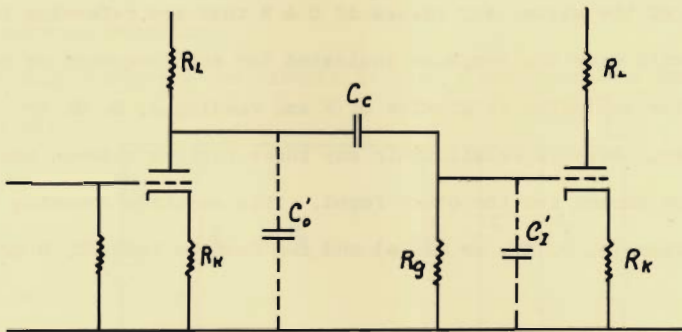

Fig. 1
Let R_g in Fig. 1 be 390K and it is desired to find the nearest standard value of condenser for C_c that will give a loss of 1 db at 20 cycles. Set the indicator to -1 on the (db) scale. Move the slide and set 2 on the (F) scale to the hair line. Re-set the indicator to .39 on the (X_c) scale. Under the hair line read .4. Determining the decimal point gives a value of $.04 \mu f$. If this value is not convenient and say $.05 \mu f$ is more suitable, move the slide till .5 (for $.05 \mu f$) is at .39 (for 390K) and read $F = 16.2$ for -1 db response. The impedance Z in polar form represented by the coupling as a load on the tube may be solved by the relation of $|Z| = \frac{R}{\cos \theta}$. $\cos \theta$ and θ may be read directly for any value of frequency when C is set to R. The (C) and (X_c) scales are used to compute $\frac{R}{\cos \theta}$. Set the left index of scale (C) to R on (X_c) .
At high frequency the circuit in Fig. 1 resolves into the equivalent circuit of:-